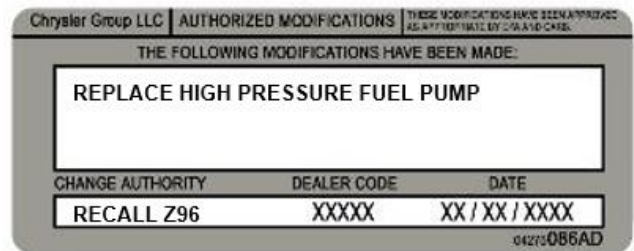

Figure 197 – Authorized Modifications Label
1. Type or print (with a ballpoint pen) the necessary information shown in (Figure 197) onto the authorized modifications Label.